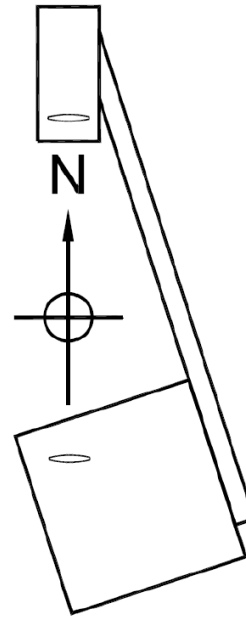

Figure 2.2 Sensor Orientation
3. Attach the sensor head to the mounting pole using the two (2) U-bolts. Do not tighten the U-bolt nuts completely until the head is oriented.
4. Rotate the sensor head until the receive lens is facing north as shown in Figure 2.2.